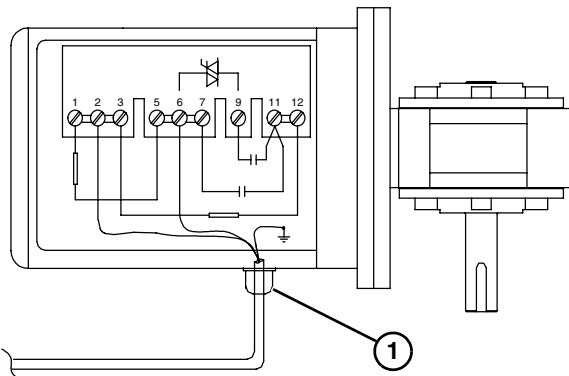

Figure 24
- b. Record wire colors on terminals 2, 6 and ground (Figure 24). Loosen terminals 2, 6 and ground and remove wires.
- c. Loosen cord grip (Figure 24, item 1) and remove cord.